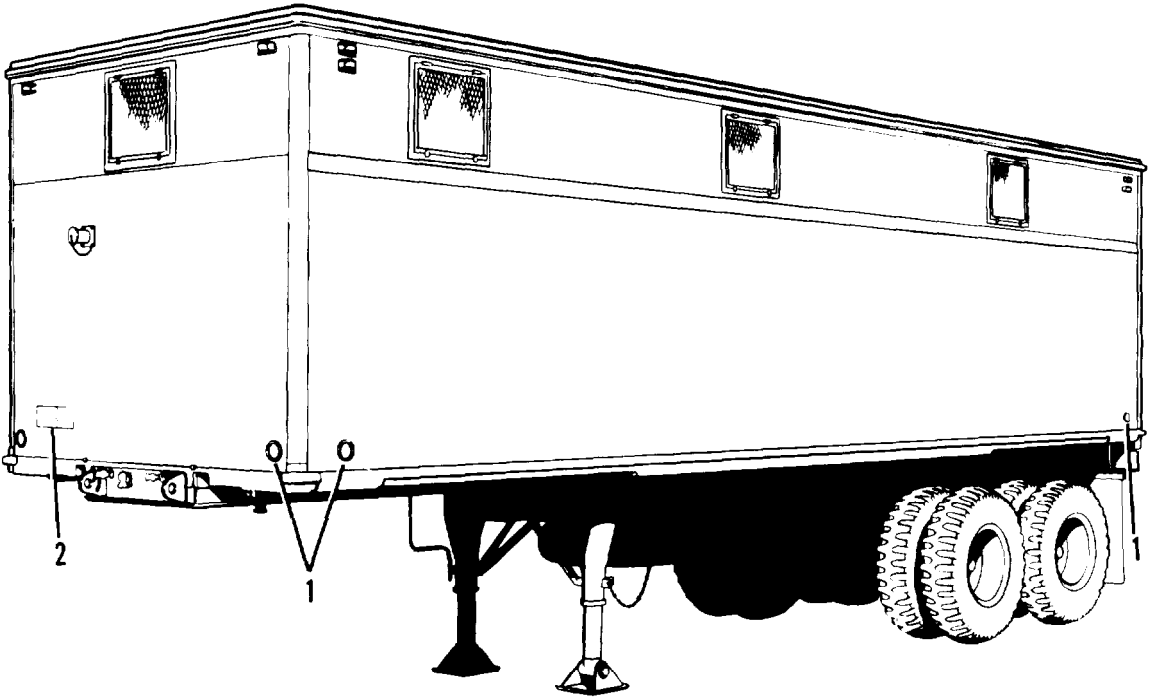

Figure 4-52. Vehicle data plate and reflectors
- a. Removal. Remove screws securing reflector (1, figure 4-52). Remove reflector (1).
- b. Installation. Position reflector (1). Secure with two screws.
- a. Removal. Remove six rivets securing data plate (2, figure 4-52). Remove data plate (2).
- b. Installation. Position data plate (2). Secure with six rivets.